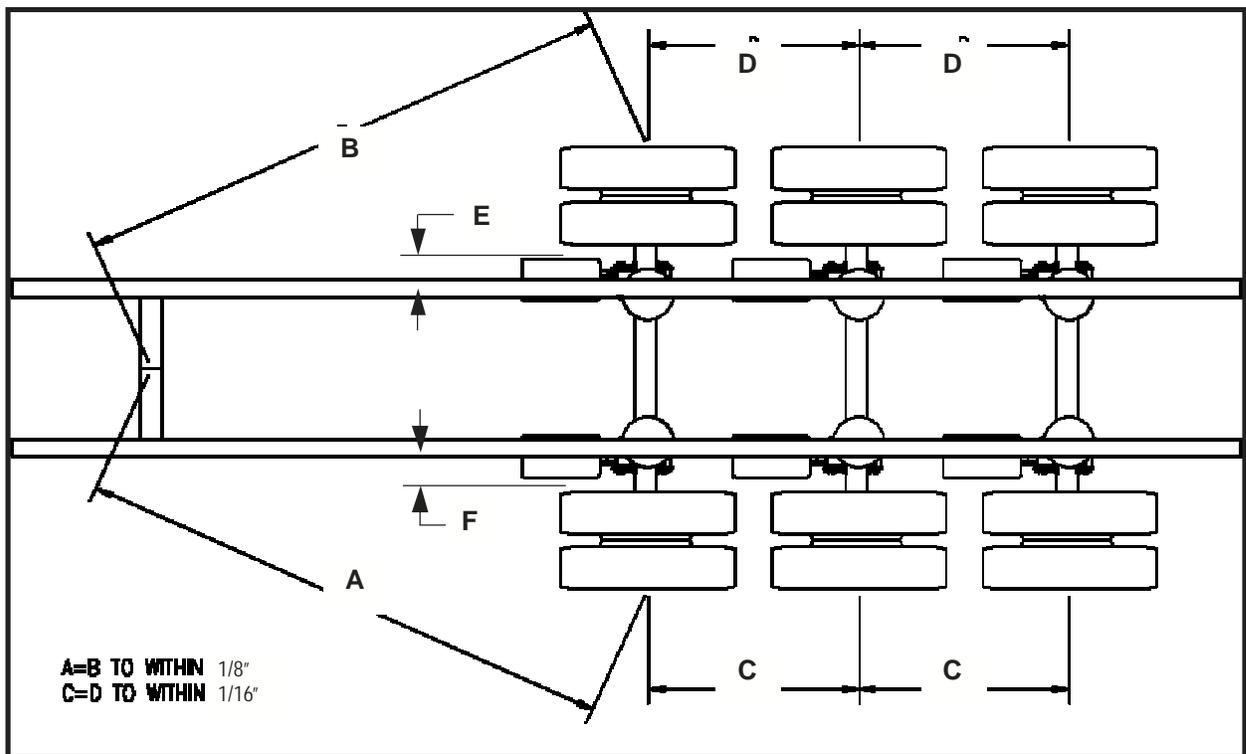

Figure 23
4. Move the other arm on the suspension forward or backward to allow the distance from center of spindle to kingpin (**Figure 23** Dimension **A & B**) to be equal distance within 1/8".
7. Make sure axles protrude evenly on both sides from frame. **Figure 23** dimensions **E** and **F** must be within 1/4" of each other
9. Additional suspensions should be aligned per **Figure 23** using the **C & D** dimensions with only 1/16" maximum variations.
5. Using a 1/2" break over or ratchet, rotate the other two collars on the other hanger so the suspension moves forward or backward to allow the distance from center of spindle to kingpin (**Figure 23** Dimension **A & B**) to be equal distance within 1/8". Rotate inside and outside Eccentric Collar together and the same.
8. Make sure axles protrude evenly on both sides from frame. **Figure 23** dimensions **E** and **F** must be within 1/4" of each other.
10. Additional suspensions should be aligned per **Figure 23** using the **C & D** dimensions with only 1/16" maximum variations.